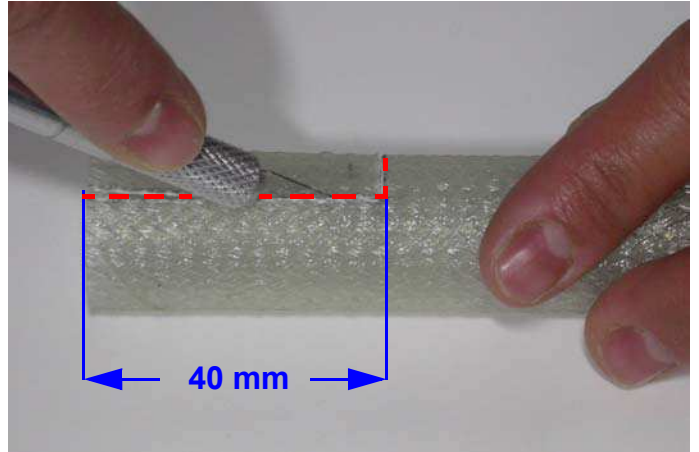

Fig.76: Remove the marked side.
- using a cutter, remove the marked part (see figure 76);